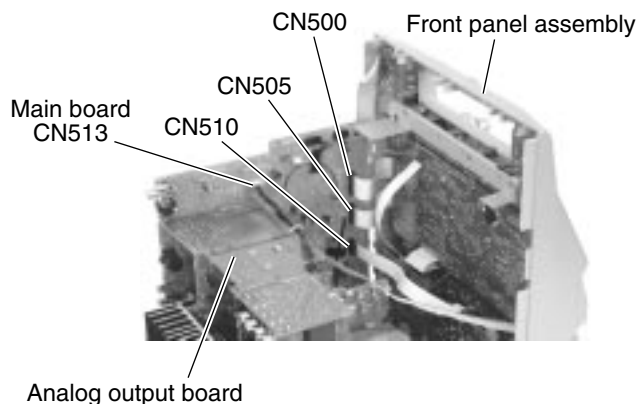

Fig.18
■ Removing the main board (See Fig.18 and 19)